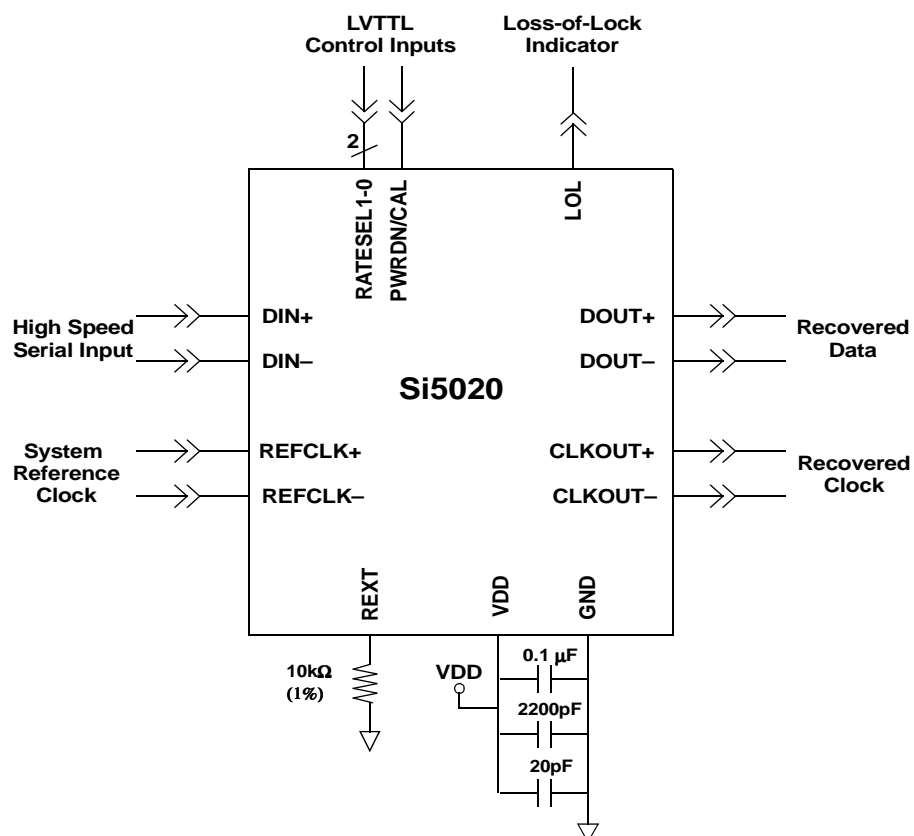

Figure 5. Si5020 Typical Application Circuit
2. The Si5020 specifications are guaranteed when using the recommended application circuit (including component tolerance) of Figure 5 on page 9.